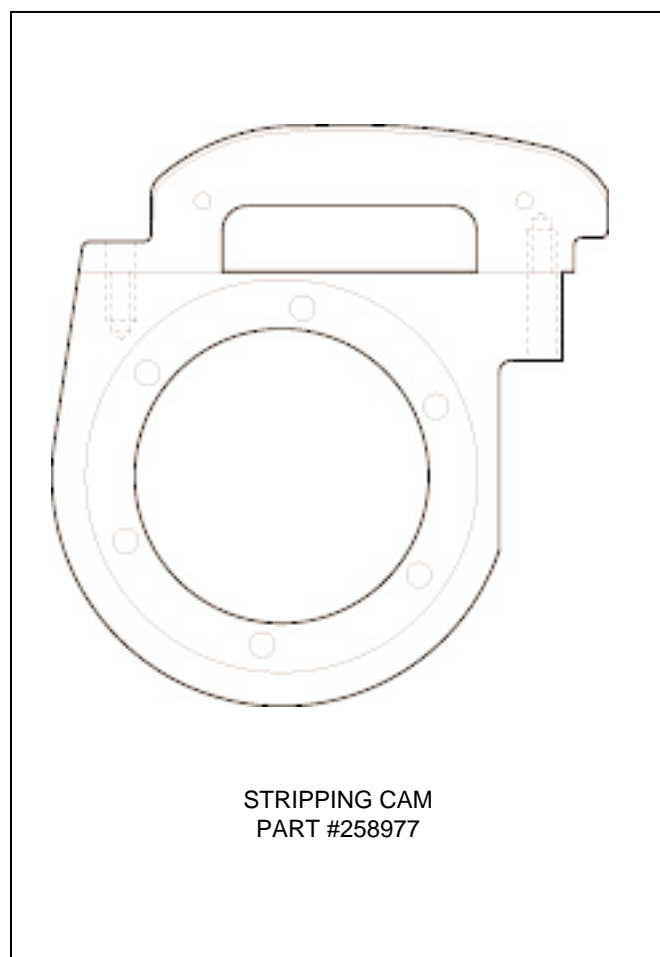

Figure 4.31 STRIPPING CAM INSERT
- 4.2.30 Install stripping cam insert **part # 258977** (see figure 4.31).